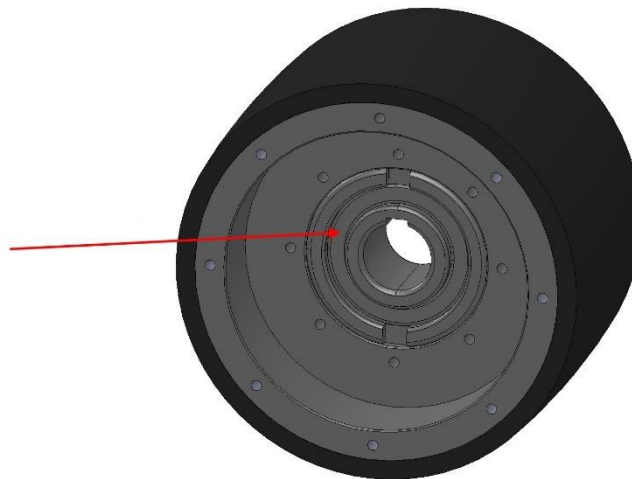

Figure 18: Remove clutch
5. Remove eight bolts M8 (figure 17) and then remove wheel side cover with shaft and bearing housing (Figure 18).